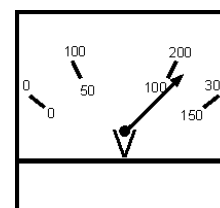
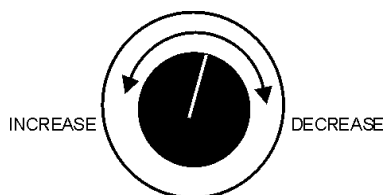

Figure 22. Voltage Meter (Volts)
Figure 23. Voltage Adjust Control Knob
11. The generator's voltage meter (Figure 22) displays the 120 VAC in **VOLTS**. If the voltage is not within the specified frequency tolerance, use the voltage adjustment control knob (Figure 23) to increase or decrease the desired voltage.